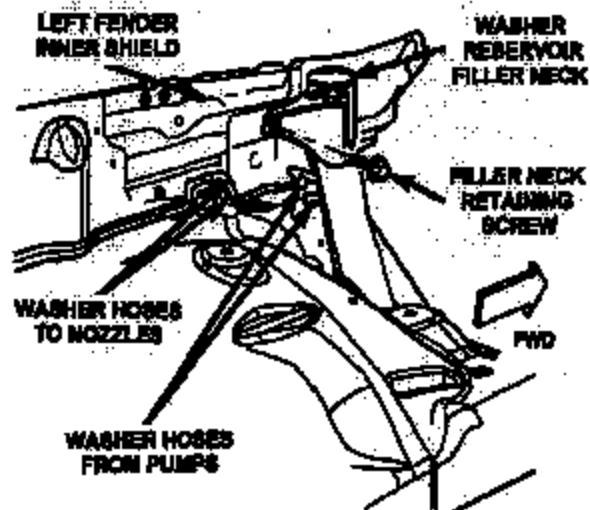

Figure 1
3. Remove the washer reservoir filler neck retaining screw (Figure 1).
4. Disconnect the washer reservoir hoses from the filler neck. Mark the washer hoses to prevent incorrect installation (Figure 1).
28. Install the washer reservoir filler neck support screw (Figure 1).
29. Connect the washer hose connections as marked in step 4 (Figure 1).